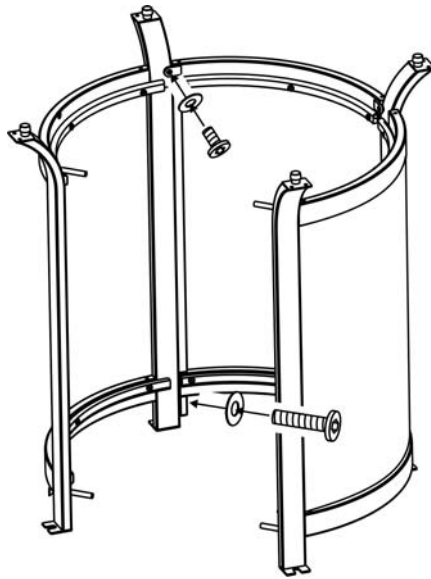

Figure 2
2. Attach the back panel to the table legs by using two 1/4"x20 mm bolts, two 1/4"x30 mm bolts and four Ø6.5x1.0 mm washers as shown in Figure 2. Guide the bolts through the holes in back panel, into the pre-drilled holes in the table legs. **Hand tighten only.**